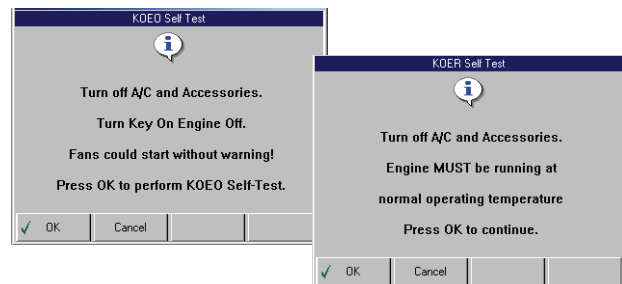

Figure 6.12: KOEO and KOER Self Test Instruction Screens
- 2 Select **KOEO Self Test** or **KOER Self Test** and press the **ENTER** key. This displays a test instruction screen (Figure 6.12).